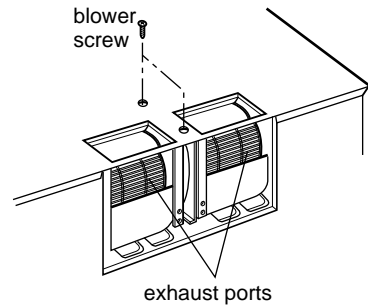

Figure 15
1. Remove and save the two blower screws. See Figure 15.